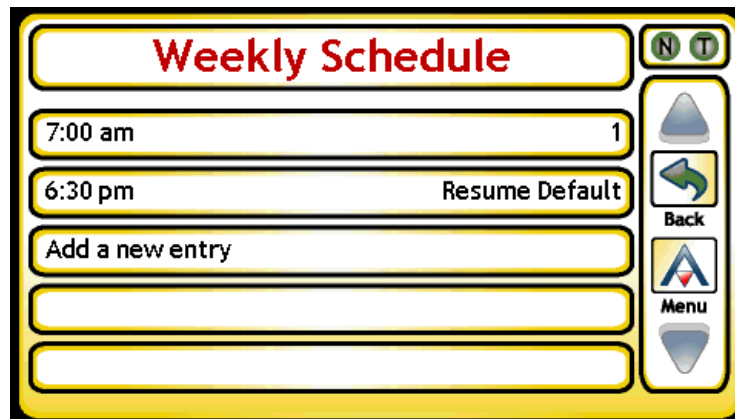

Figure 5-15 Time Values for a Day of the Week
4. The information returned will display time-value sequences used by the schedule. A maximum of 15 time & value sequences can be displayed by the NB-SD. Depending on the current state of the device, a specific day of the week could potentially have no time-value pairs defined, or have multiple. If you wish to add a new entry, select *Add a new entry* (Figure 5-15).